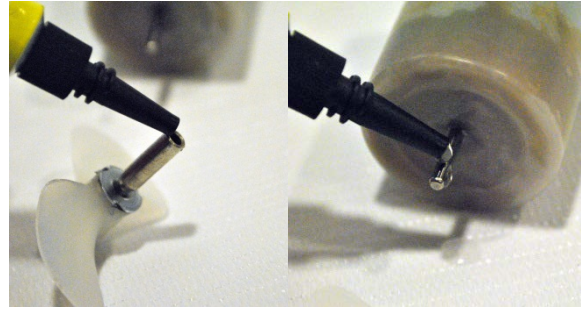

Figure 2.6-1: Adhesive on Tip of Roughened Motor Shaft and In Hollow End of Shaft Coupler
10. Place a drop of Super glue in the hollow end of the shaft coupler and on the tip of the motor shaft, as in Figure 2.6-1. Push the hollow end of the shaft coupler onto the motor shaft. A completed thruster is shown in Figure 2.6-2.